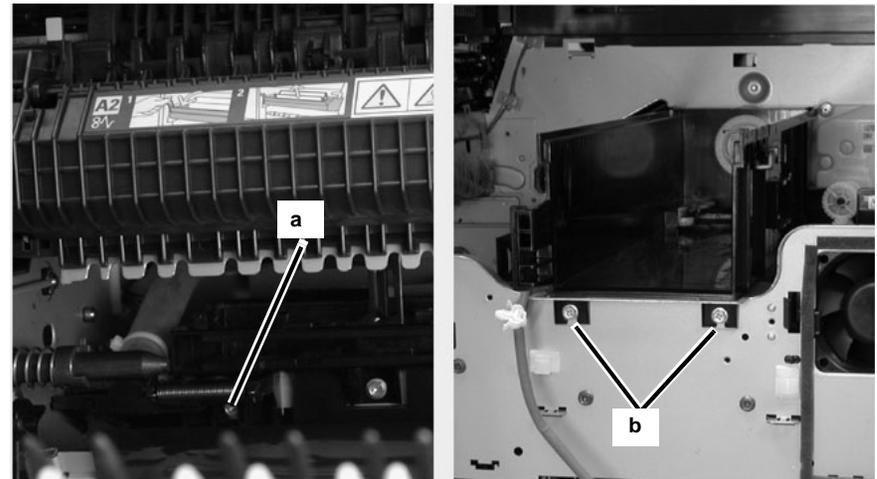

Figure 7 Removing Screws
8. Remove the Toner Cartridge Guide (Figure 7).
- a. On the left rear of the guide, remove the Dispenser Tube Screw (1).
- b. Loosen the front Screws (2).